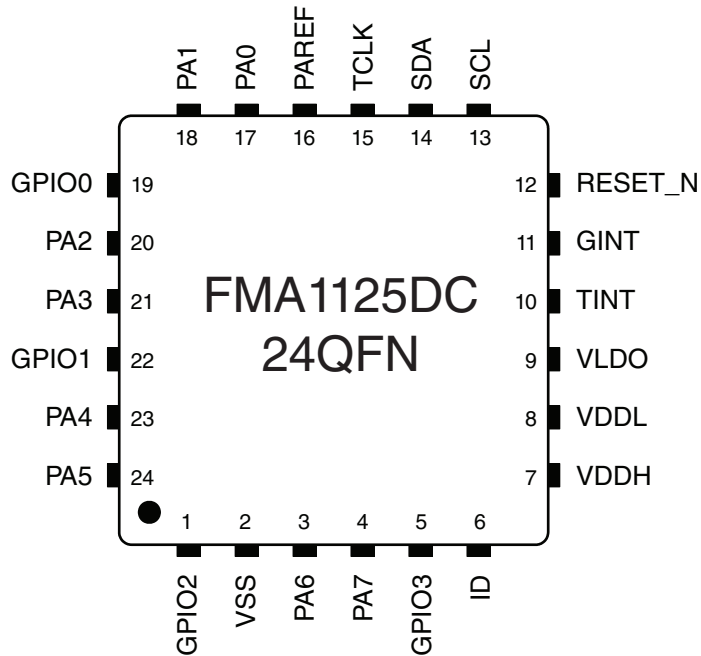

**Figure 6: Definition of Timing for F/S-mode Devices on the I2C-Bus**
4. The maximum tf for the SDA and SCL bus lines quoted in Table 2 (300ns) is longer than the specified maximum tof for the output stages (250ns). The allows series protection resistors (RS) to be connected between the SDA/SCL pins and the SDA/SCL bus lines as shown in Figure 6 without exceeding the maximum specified for tf.